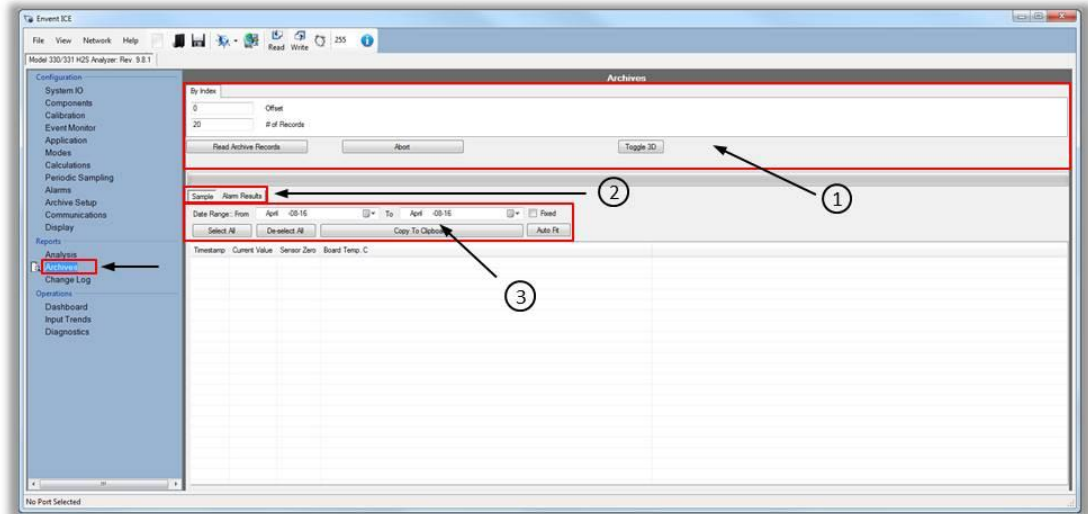

Figure 8. ICE Software: Reports: Archives Tab
Go to the "Archive" tab under the report section in the left hand menu. Refer to Figure 8.
Retrieve the records from the analyzer by clicking on this button. The amount of records retrieved will depend on the offset and # of records. Refer to Figure 8 area ①
The number of records retrieved from the analyzer. By default the analyzer always retrieves from newest to oldest records. Figure 8 area ①.
The records are always retrieved from newest to oldest. Use the offset to see the oldest records and skip the newest ones. E.g. the analyzer has recorded 1000 records, and only the first 100 records (Oldest) need to be retrieved, type in 900 in the offset box and this will skip the latest 900 records. Refer to Figure 8 area ①.
On Figure 8 area ② shows "Sample" and "Alarm Result" buttons. "Sample" was the name giving to group 1 on the Configuration>Archives Tab.
The "Alarm Result" group is a fixed section that shows all the alarms state changes, bypass action, discrete input state change, etc. Refer to Figure 8 area ②. The
The Date Range is the option of retrieving data from specific calendar days. By default, the analyzer will always retrieve data from the current date. To always retrieve records from a specific Date Range, check the “Fixed” box to retrieve records from a specific time. Refer to Figure 8 area ③.
The auto fit option is used to increase the column's width for when the variable's name being recorded is too long. Refer to Figure 8 area ③.